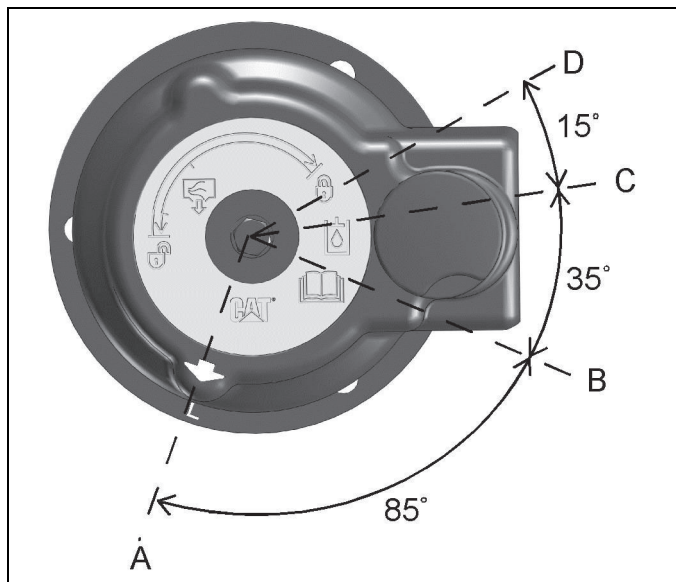

Figure 10-155: Filler Cap
- (A) LOCK position
- (B) PRESSURE RELEASE - START position
- (C) PRESSURE RELEASE - END position
- (D) OPEN position
5. Release the pressure that may be present in the return hydraulic circuit with the following procedure. Refer to Figure 10-155 for filler cap positions.
- a. Turn the filler cap counterclockwise and move the arrow from position (A) to position (B).
- b. Release the pressure for a minimum of 45 seconds by moving the arrow from position (B) to position (C).
- c. Move the arrow from position (C) to position (D).
8. Clean the filler cap and install on the tank. Tighten the filler cap on the hydraulic tank to position (A).